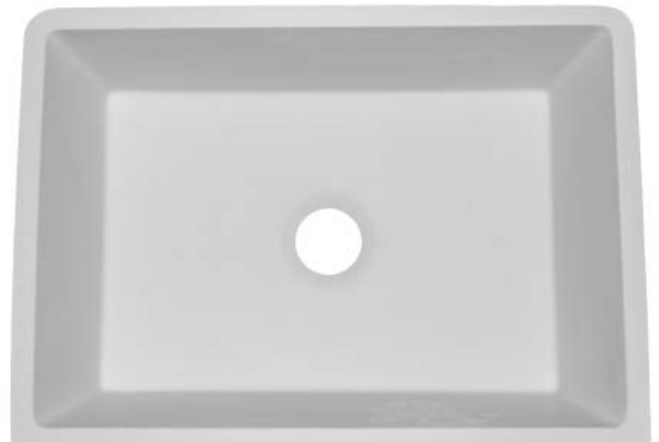

Figure 6B
- Next, take the 2" (51mm) dry wall screws and assemble the pieces by following Figure 6B and 7A.